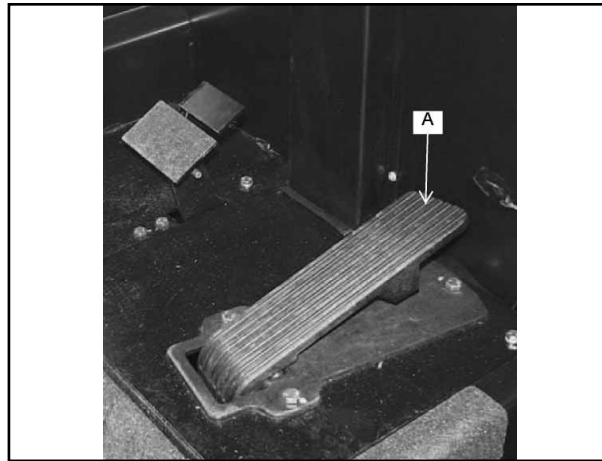

FIGURE 30
The foot throttle (A) is located to the right of the brake pedal on the floor of the operator's compartment as shown in figure 30. This pedal controls the machine travel speed. Press the forward/reverse switch to choose the travel direction, and then press down on the foot throttle to move set the machine in motion. Increase the foot pressure to increase the travel speed.